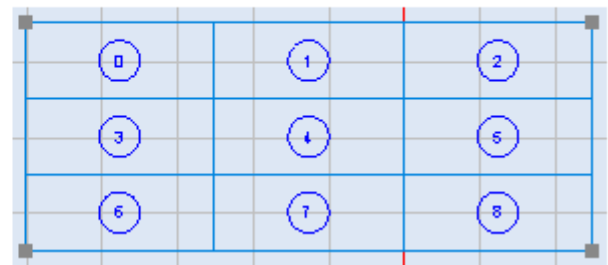

Figure 531: Examples of the Vertical and Horizontal Tiling Orientation
- **Vertical** – specifies that the tiling will be done vertically as shown in the example on the left side of Figure 531 (below). (Note that the cells in the example are in vertical sequences.)
- **Horizontal** – specifies that the tiling will be done horizontally as shown in the example on the right side of Figure 531 (below). (Note that the cells in the example are in horizontal sequences.)